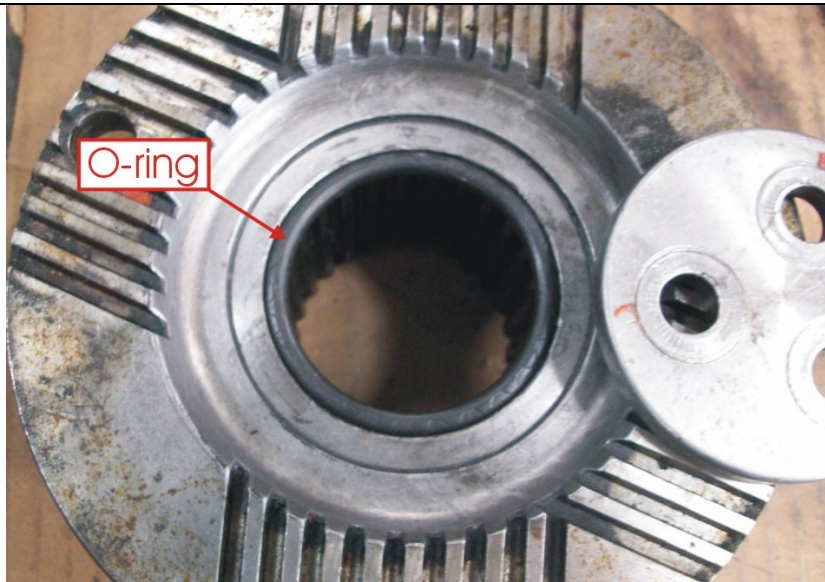

Figure 4: O-ring.
7. Inspect the gearbox output flange o-ring (PN 6403696) underneath the endplate, replace if damaged. See Figure 4.